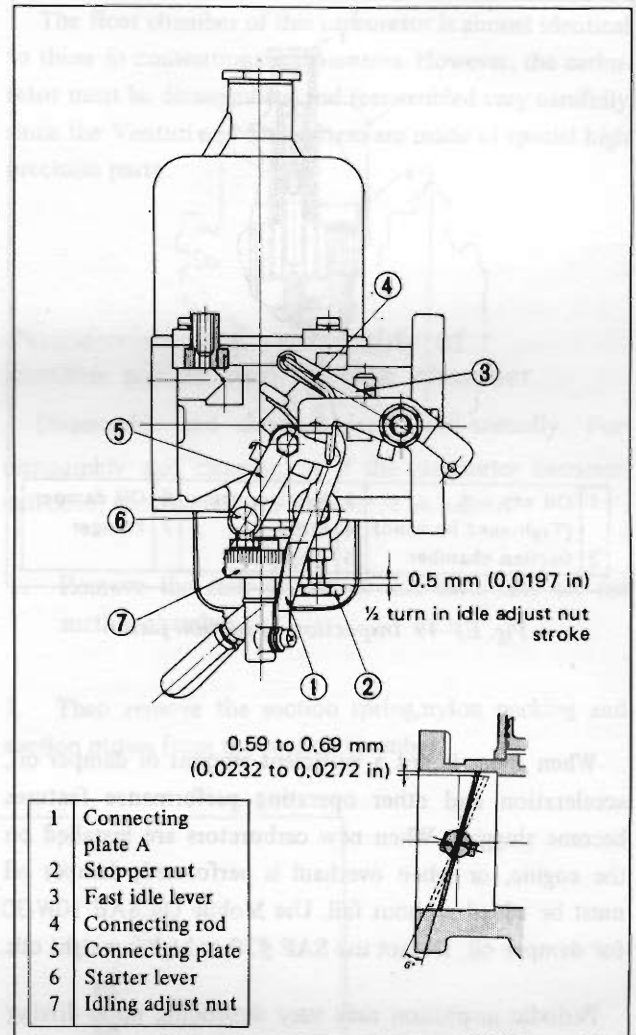

Fig. EF-48 Adjustment of starting interlock opening
For the adjustment of starting interlock opening, bend the connecting rod as shown in Figure EF-48 with an appropriate tool such as radio pinchers to change its length.
7. Then apply a few drops of light oil to the suction piston rod, and reassemble. Under no circumstances should oil be applied to the inside the suction chamber or to in Figure EF-48 with an appropriate tool such as radio pinchers to change its length. Improper or defective operation.